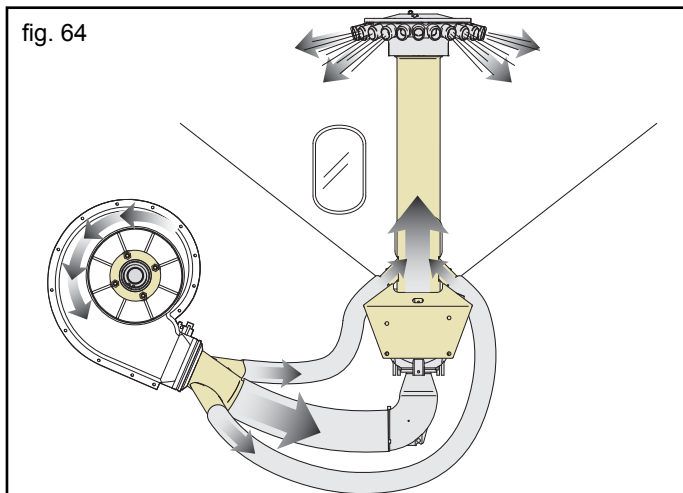

fig. 64
- Operate the empty seeding machine, the air-flow frees the pipes from condensation and removes eventual impurities (Fig. 64).